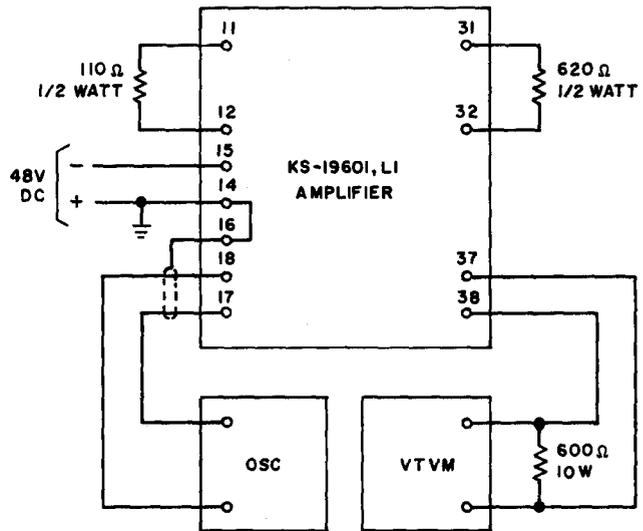

Fig. 1 — Test Setup for High-Level Channel Gain-Frequency Test
3.01 The test setup for measuring the high-level channel is shown in Fig. 1. Chart I gives the step procedure to be followed when making the test. The oscillator output in Step 6 of the procedure is measured to ensure that the amplifier will deliver the proper output with the minimum input voltage requirement. The procedure may vary slightly, depending on the testing equipment used.
2	Connect test circuit as shown in Fig. 1.
7	Reconnect circuit as shown in Fig. 1. Do not change oscillator output setting.